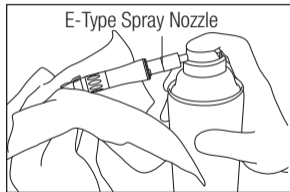

Fig. 13
- 3) Hold the handpiece and spray for 2 or 3 seconds until PANA SPRAY Plus comes out of the handpiece tip (Fig. 13).